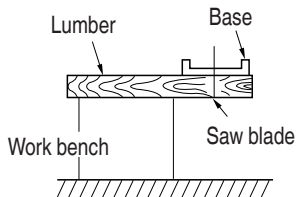

Fig. 10
8. Prepare a wooden work bench (Fig. 10)